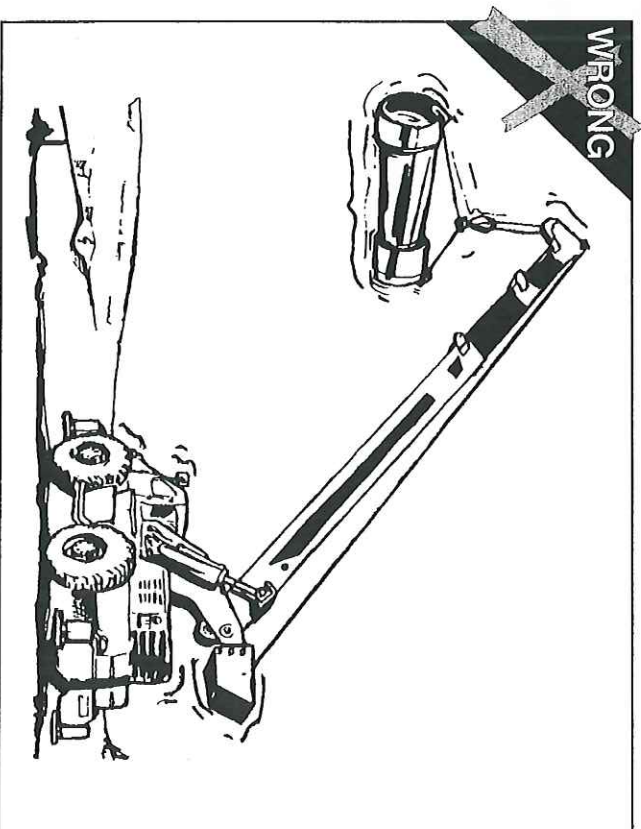

FIG. 25
- Use the shortest boom possible. (FIG. 25)